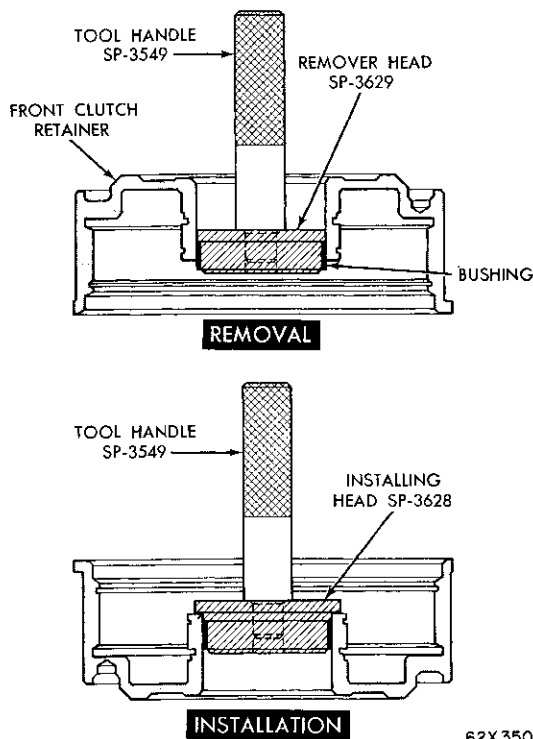

Fig. 72—Replacing Front Clutch Retainer Bushing
(1) Lay the clutch retainer (open end down) on a clean smooth surface and place the removing head Tool SP-3629 in the bushing. Install the handle Tool SP-3549 in the removing head (Fig. 72).
(2) Drive the bushing straight down and out of the clutch retainer bore. Be careful not to cock the tool in the bore.
(3) Lay the clutch retainer (open end up) on a clean smooth surface. Slide a new bushing on the installing head Tool SP-3628, and start them in the clutch retainer bore.
(4) Install handle Tool SP-3549 in the installer (Fig. 72). Drive the bushing into the clutch retainer until the tool bottoms.
(5) Thoroughly clean the clutch retainer before assembly and installation.